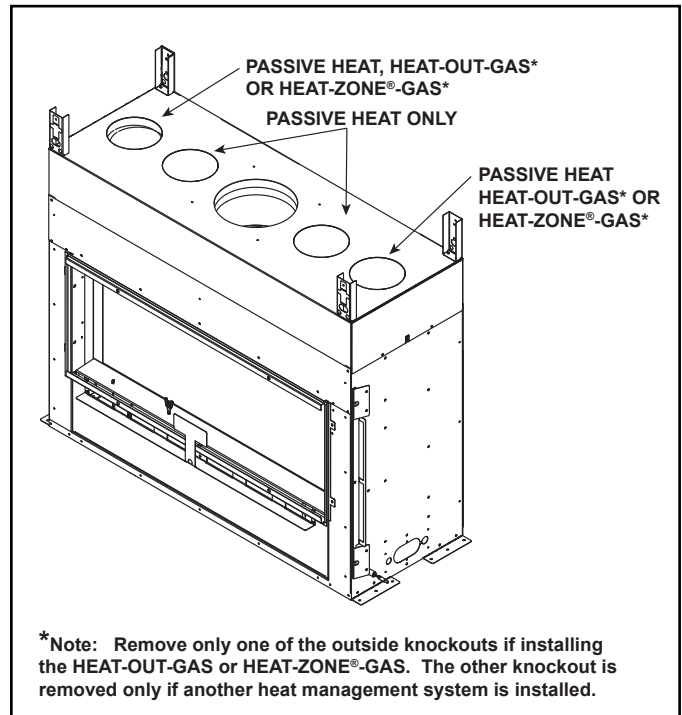

Figure 6.4
- Center the duct collar around the exposed hole and attach it to the appliance. See Figure 6.4.
- Passive Heat may be used with HEAT-OUT-GAS or one HEAT-ZONE-GAS. The dedicated knockouts, as shown in Figure 6.4, must be used only as indicated.